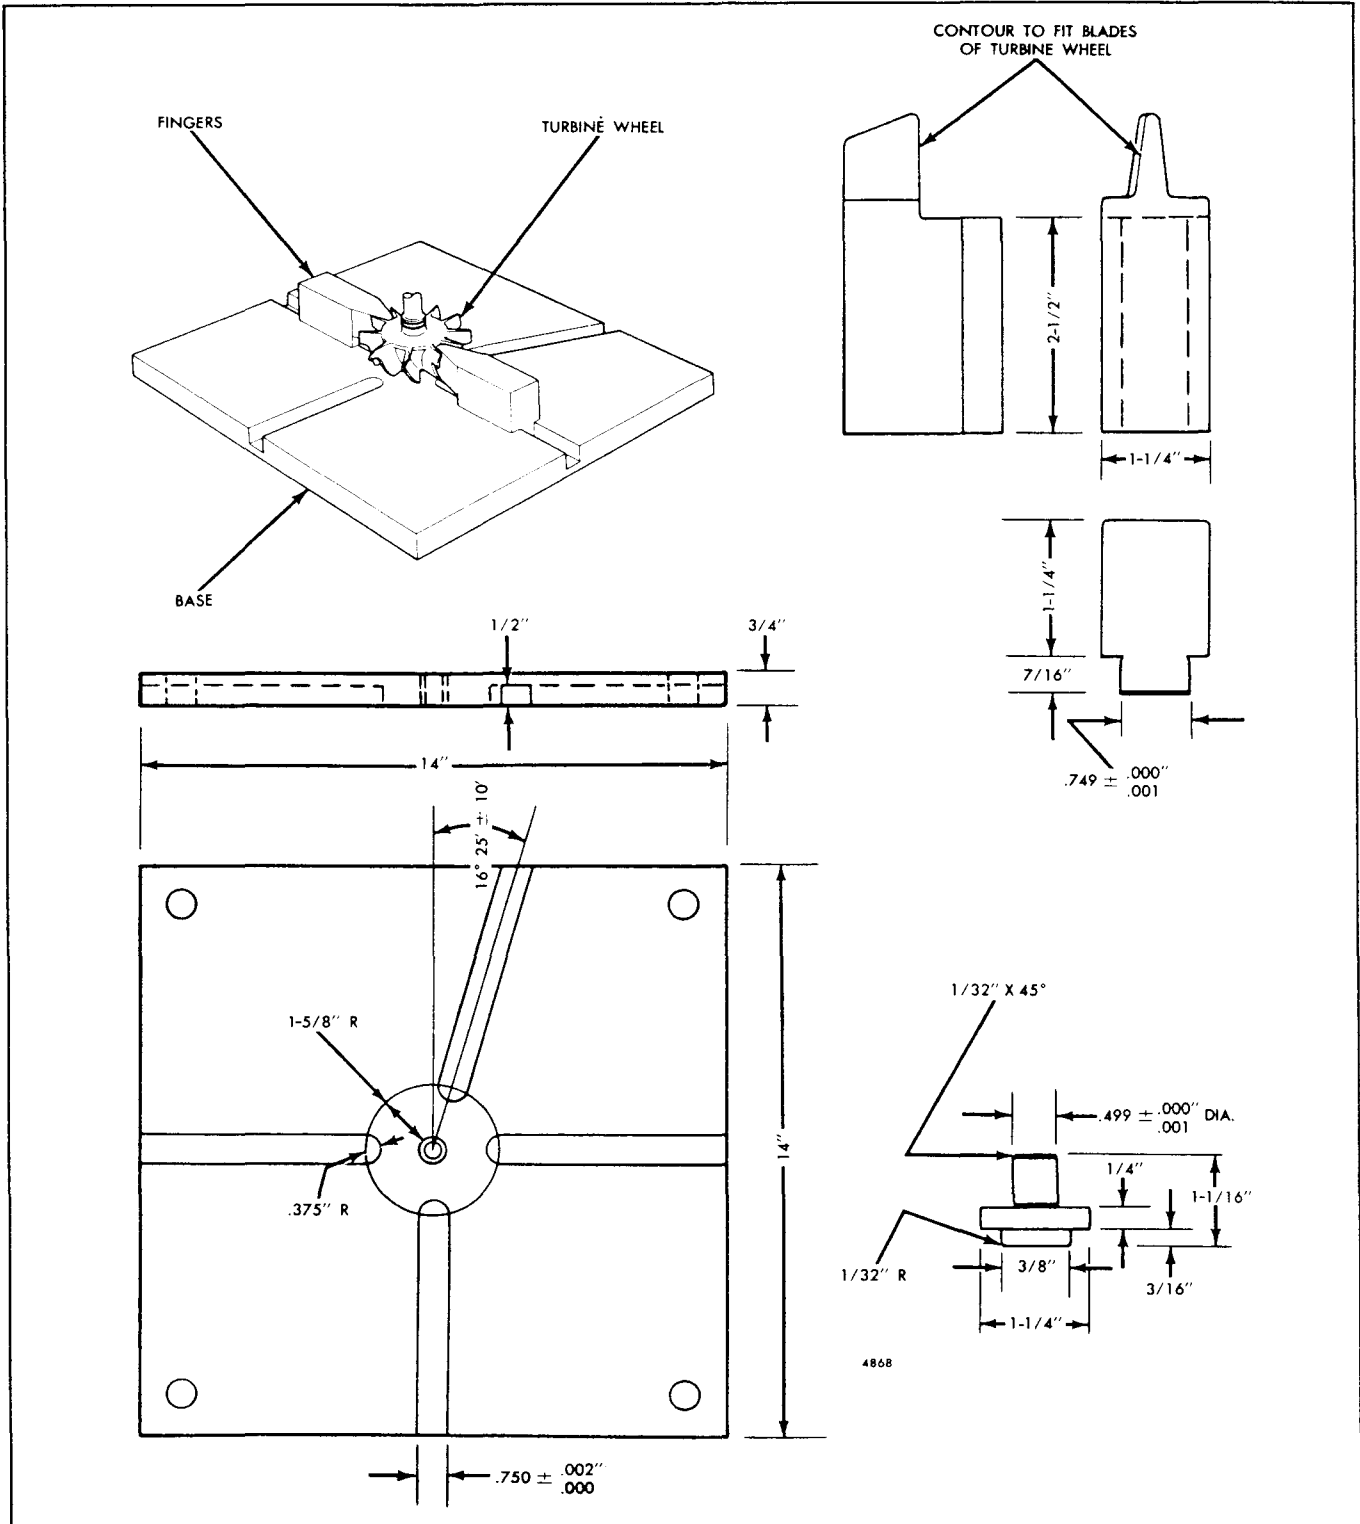

Fig. 6 - Turbocharger Holding Fixture
3. Position the turbine wheel (9) of the center housing assembly in a suitable holding fixture (Fig. 6).
4. Remove the wheel nut (7) from the shaft.
12. Position the turbine wheel (9) of the center housing assembly in the holding fixture (Fig. 6).